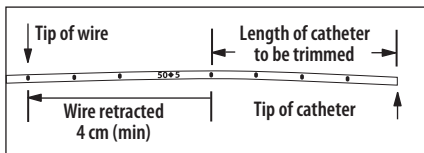

Figure 2
- 7. Withdraw placement wire through septum to retract wire a minimum of 4 cm behind catheter cut location (refer to Figure 2).